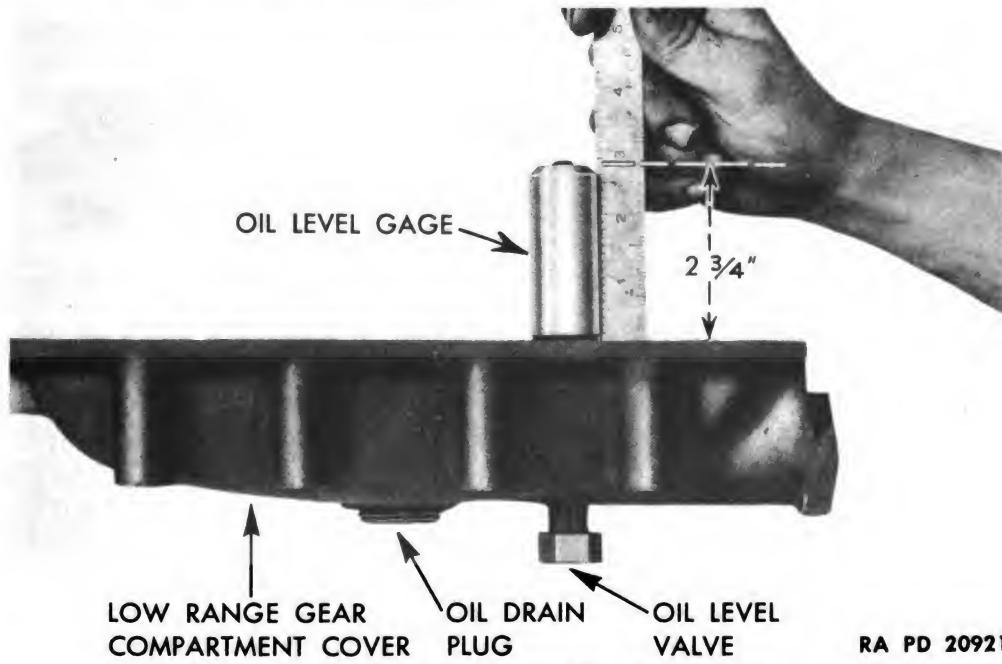

Figure 193 — Checking Oil Level Gage
(7) CLUTCH GEAR REDUCTION UNIT OIL LEVEL GAGE (fig. 193). Inspect oil level gage to make sure it is tight and securely staked or welded to cover, and that it extends $2\frac{3}{4}$ inches above machined surface on clutch gear reduction compartment cover. NOTE: On vehicles with serial No. 818 and above, the gage will be welded